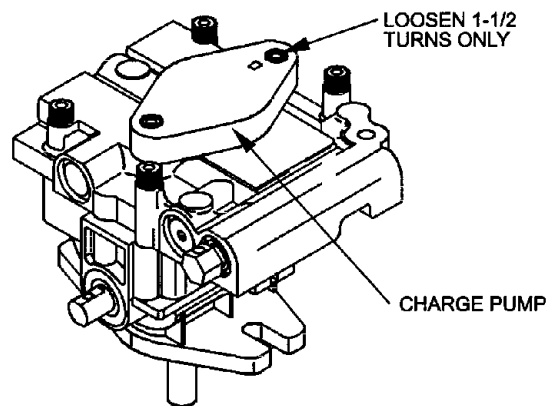

FIG. 8
- f) If either drive wheel does not rotate, one or both of the charge pumps (located on the top of the main pump as shown in Figure 8) may have lost their "prime". Refer to Section 5.1.10.
The critical area for purging air from the hydraulic system is between the oil reservoir and each charge pump located on the top of each variable displacement pump. (See Figure 8).
- d) To "prime" charge pump, loosen two hex socket head capscrews (shown in Figure 8) **1-1/2 turns only**. **Make sure engine is not running**. Lift charge pump housing upward and wait for a steady flow of oil to flow out from under housing. **Retighten capscrews**. Do this for both pumps. Note: Hydraulic reservoir can be pressurized to up to 5 psi to speed this process.